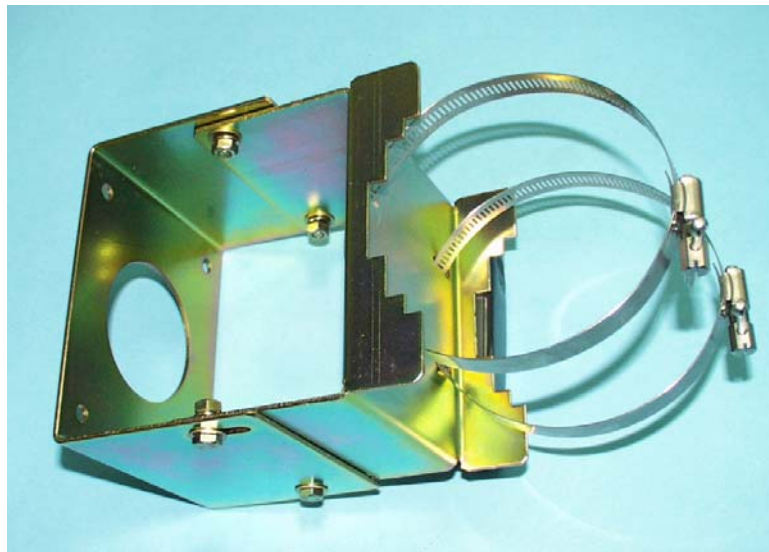

Figure 3-20: MD – 0087 Mounting Kit - Assembled
5. Connect the RF and IF cables on the rear of the BS-RFU (see Figure 3-20 below).